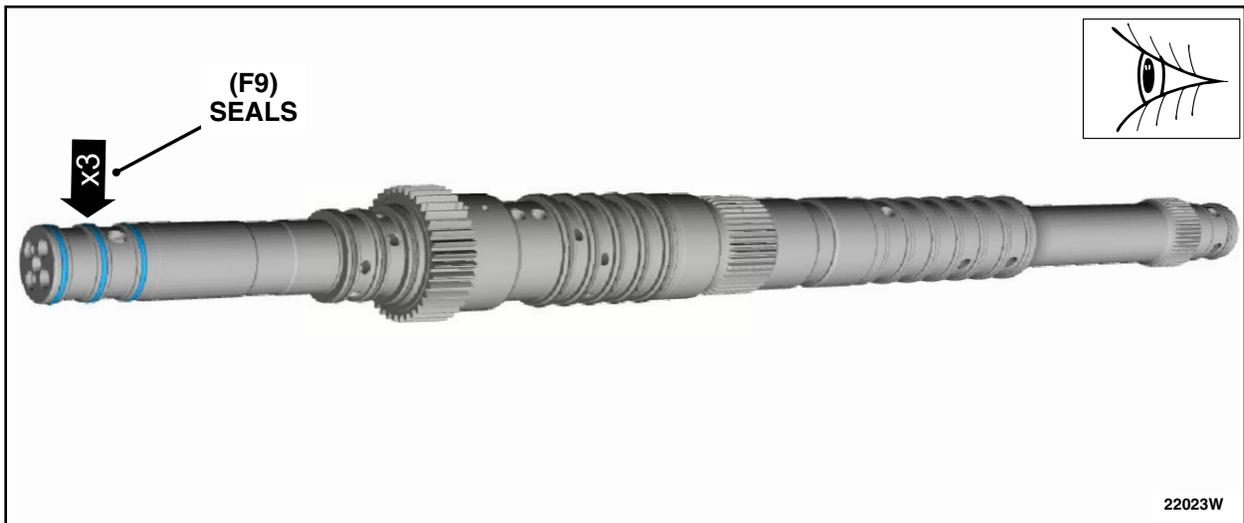

FIGURE 32
36. Inspect the input shaft (F9) Teflon® seals. Replace the input shaft (F9) Teflon® seals if any damage is found. See Figure 32.